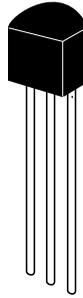

Figure 1.4 A TO-92 case.
11. Identify the three different transistors in the kit. All three transistors are packaged in what is commonly called a TO-92 case. A TO-92 package is shown in **Figure 1.4**. On the flat side will be markings or lettering. Read the markings on each device and identify their part numbers in **Table 1.1**. When all three transistors have been identified, set them to the right side of your work space.